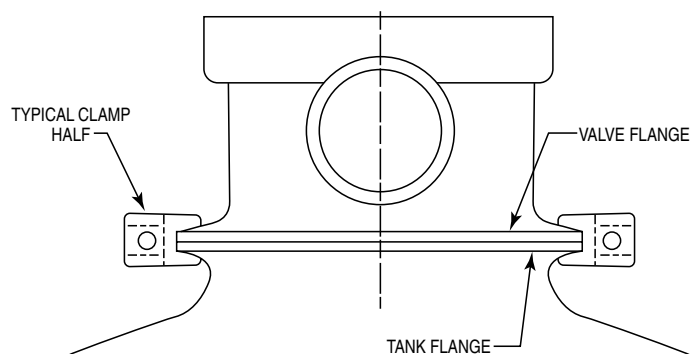
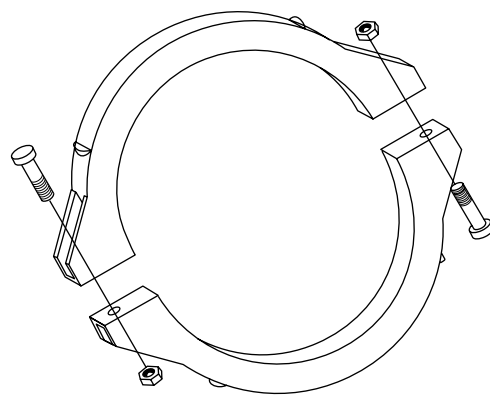

Figure 4.
Figure 5.
7. Insure that the valve is firmly pushed into the top of the tank and that the flange of the tank and the flange of the valve are contacting each other. See Figure 4.
8. The plastic clamp can now be installed. Place the clamp half over the valve flange and the tank flange as shown in Figure 4. Insert the valve screws and nuts into the clamp half making sure that the nuts are located in the special hexagonal retainer slots on the clamps. See Figure 5.